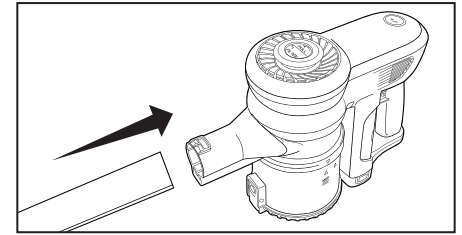

Fig. 1
1. Connect the male end of the metal wand to the vacuum (Fig. 1).